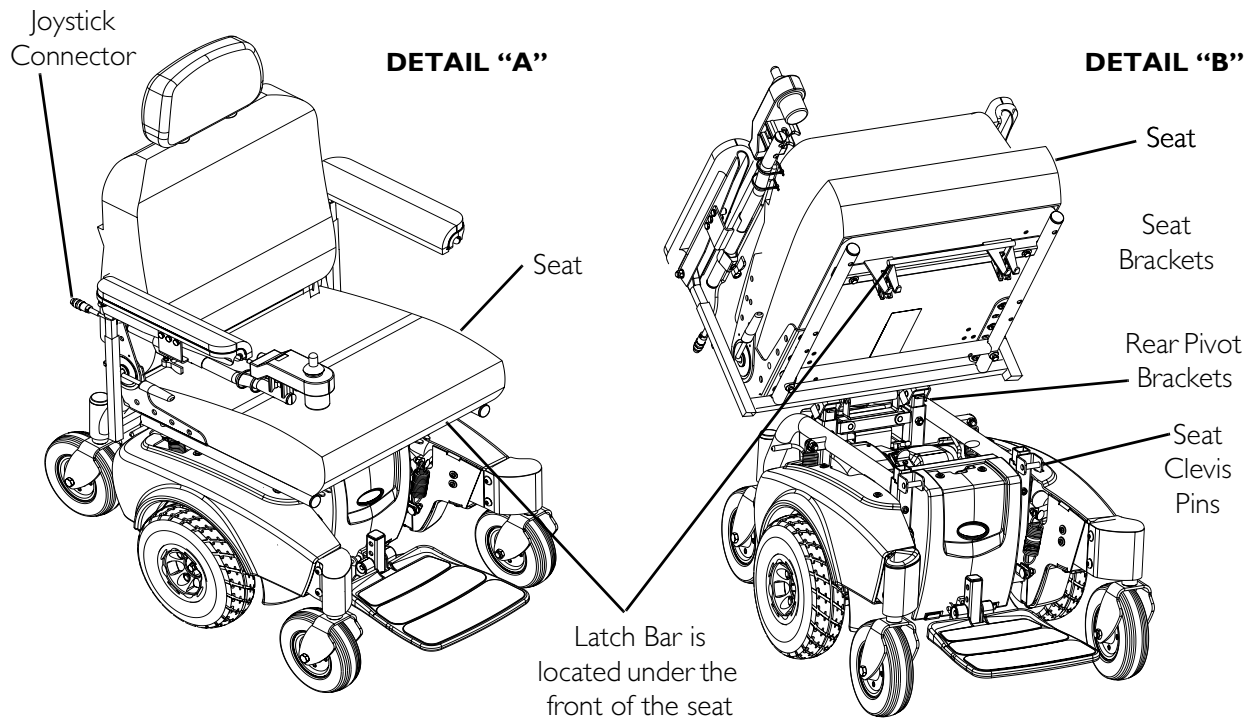

FIGURE 4.1 Removing/Installing the Seat Assembly
NOTE: For this procedure, refer to FIGURE 4.1 on page 31.
2. Push down on the latch bar underneath front of seat (Detail "A" of FIGURE 4.1).
3. Rotate seat assembly backward (Detail "B" of FIGURE 4.1).
1. Position the seat in the rear pivot brackets (Detail "B" of FIGURE 4.1).